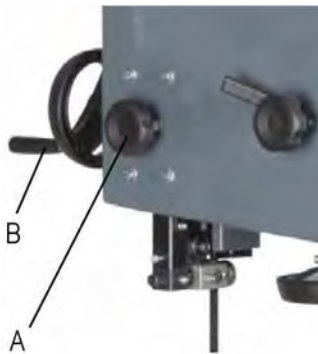

Fig. 10: Adjusting the saw blade guide
Step 1: Loosen the clamping screw (Fig. 10, Pos. A).
Step 2: Adjust the optimum height by turning the hand-wheel (Fig. 10, Pos. B).
Step 3: Clamp the saw band guide using the clamping screw (Fig. 10, Pos. A).